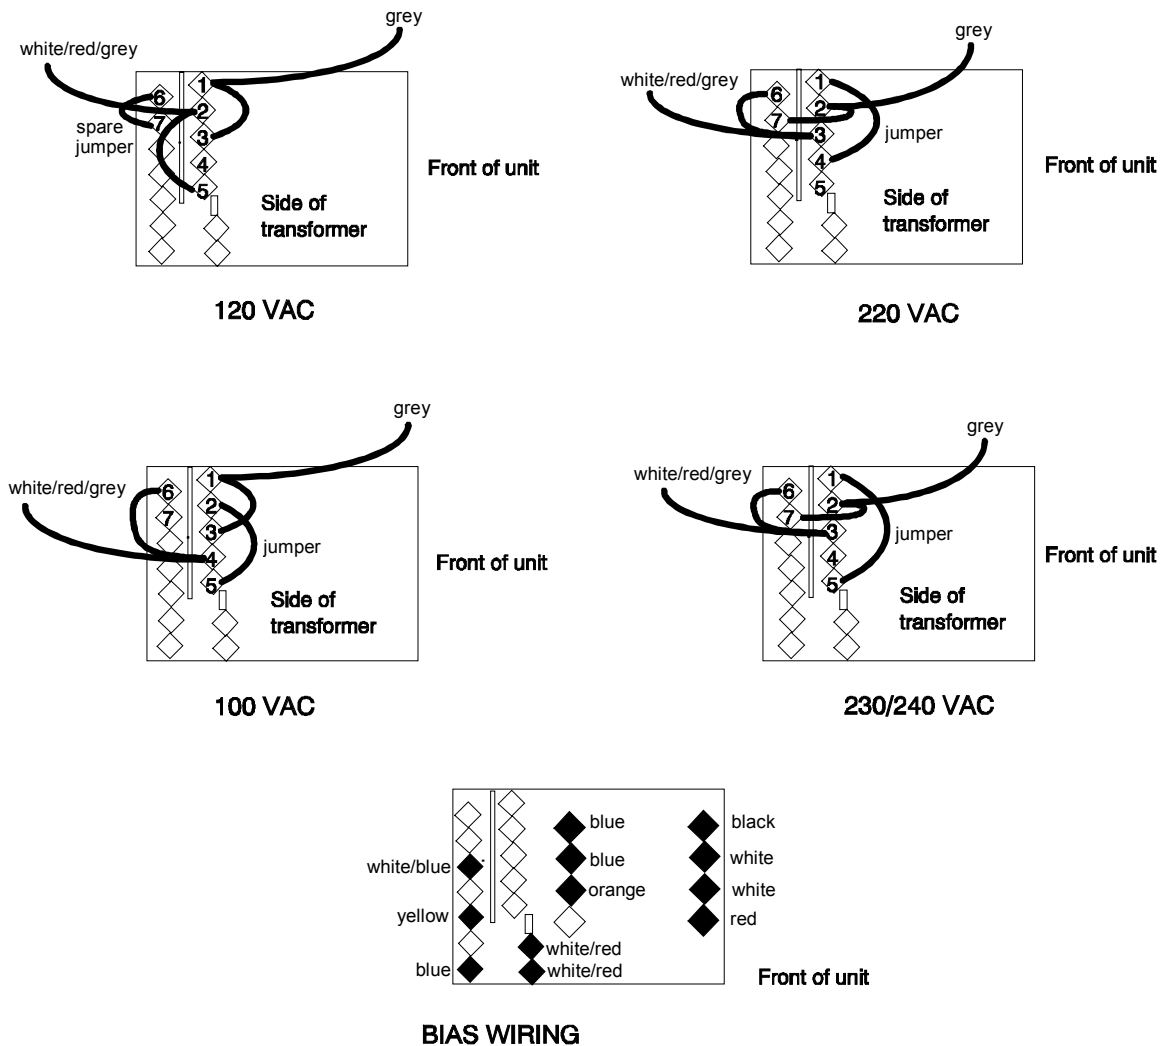

Figure 3-3. Transformer Wiring
**NOTE:** The AC power connections at the transformer primary are line voltage dependent. Refer to Figure 3-3 subsequent reconnection.
Figure 3-3 illustrates the primary wiring configuration of the power transformer for various ac line voltages. Use long nose pliers to disconnect the wires going to the transformer terminals.
Figure 6-4 shows the transformer, positive and negative output rails and primary and secondary bias circuits. All bias circuits are located on the A1 pc board. Bias voltage test points are shown in table 6-1 and transformer wiring diagrams are shown in Figure 3-3.